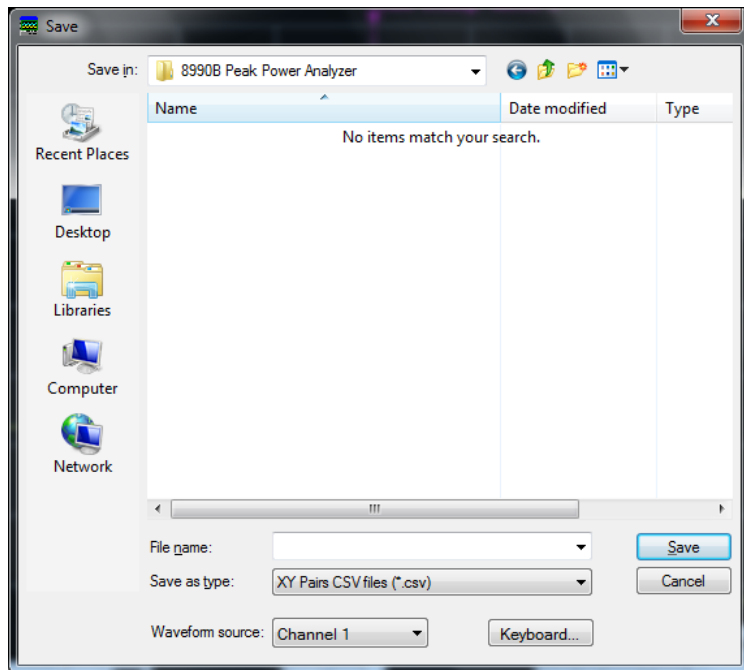

Figure 2-98 Save multipulse dialog
- 2 The Save dialog is displayed as shown in Figure 2-98. You can select the input channel to be saved by selecting **Waveform Source** to display the input channel list.